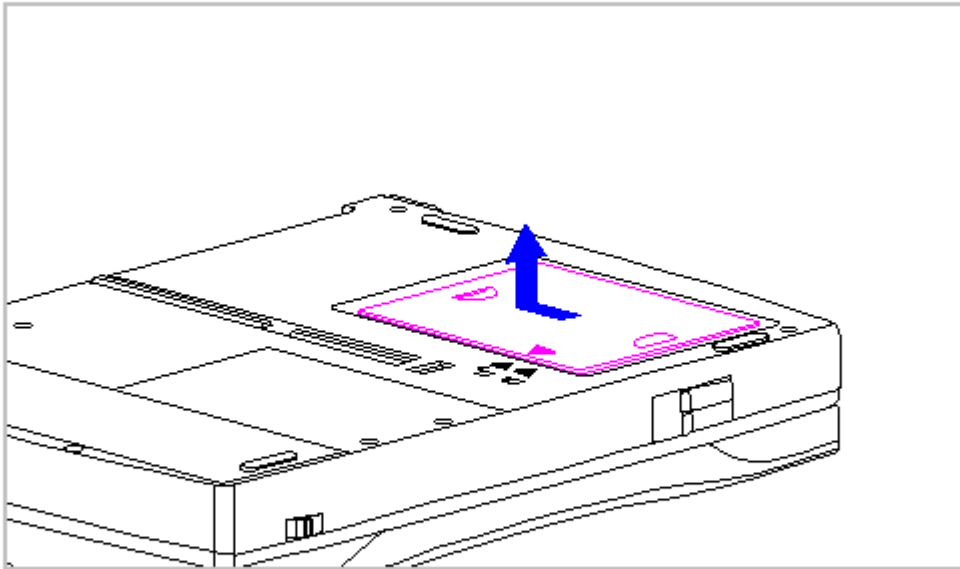

Figure 3-14. Removing the Memory Compartment Cover (All Models)
3. Slide the memory compartment cover toward the rear of the computer and lift up (Figure 3-14).